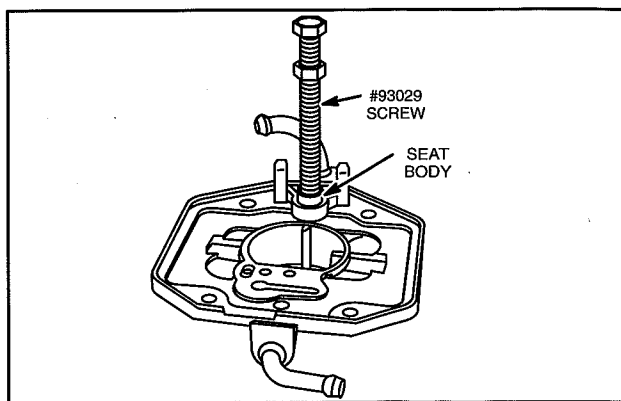

Fig. 105 – Remove Inlet Body
1. Use self-threading screw #93029 from flywheel puller, Tool #19165. Thread screw into seat body 3-4 turns. Then, remove the screw, Fig. 105.